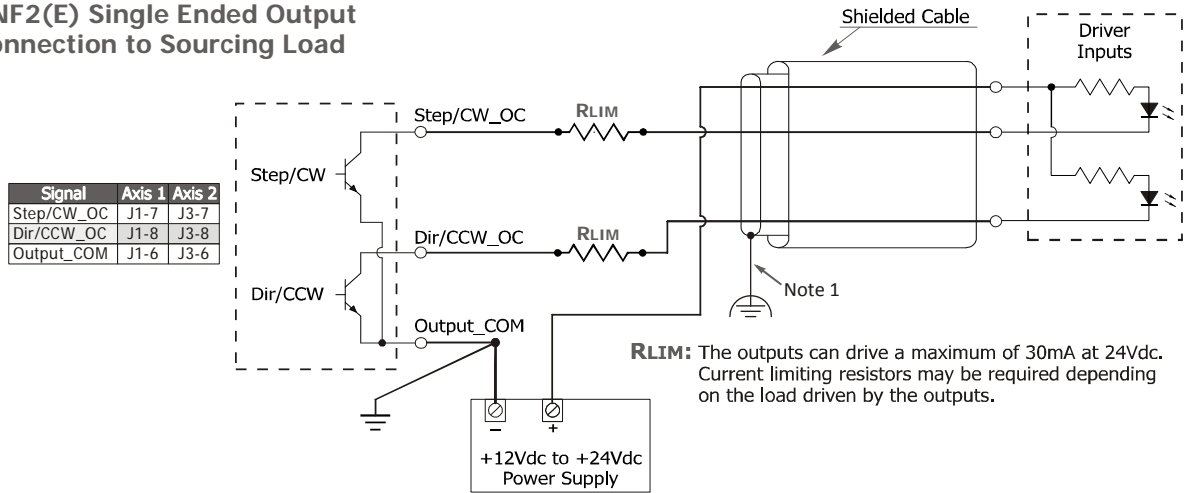

Figure T1.7 Open Collector Drive Wiring (Sourcing Inputs)
All singled ended outputs in the IANF2(E) are open collector sinking. They share a single common pin that must be tied to the ground connection of the power supply powering the outputs. Figure T1.7 below shows how to wire the outputs to open collector sourcing inputs on your drive.
Each axis has three digital outputs. Both axes have Move_Complete and Axis_Fault outputs. Axis 1 has an Online output, while axis 2 has a general purpose output. These outputs are electrically identical to the open collector Step/CW_OC and Dir/CCW_OC outputs available on each axis. These digital outputs share a common ground pin with the driver outputs. Wiring is identical to the diagrams given in figures T1.7 and T1.8.